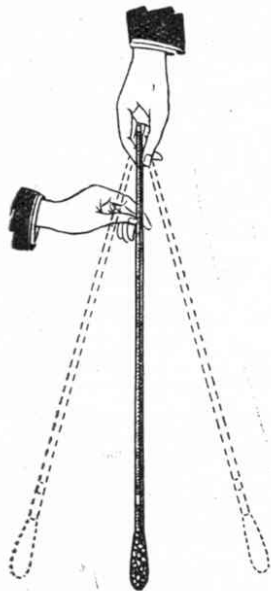
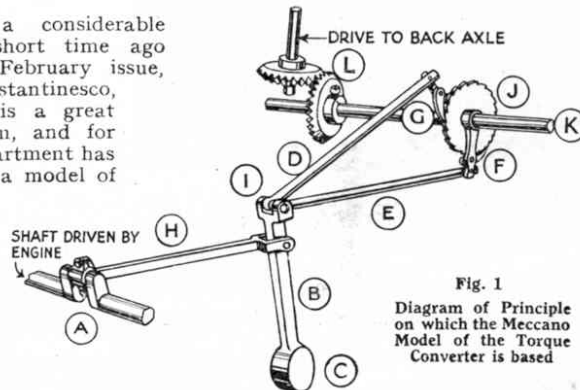

Fig. 2
Fig. 1
A diagram of the working of the model is given in Fig. 1. The crank (A) driven by the engine, is connected to a lever (B), to the lower end of which is fixed a heavy weight (C) forming a pendulum. The other end of the lever (B) is connected to two rods (D and E) carrying pawls (F and G) which bear on a ratchet wheel (J). In this manner the torque, or twisting effect, is delivered to the rod (K) and through it by bevel gears and shaft (L) to the differential on the back axle (not shown in the diagram). No matter whether the rods (D and E) be pushed towards the ratchet or pulled away from it, the turning motion imparted by the pawls to the rod (K) is always constant in direction.
Our readers will obtain a clearer idea of the working principle of the Torque Converter by taking a walking stick with a heavy knob and suspending it with the knob downwards, as shown in Fig. 2. With the left hand take hold of the stick a few inches below the tip and swing it gently to and fro. Notice that it swings evenly and pivots in the thumb and finger of the right hand.
This is the principle on which the Constantesco Torque Converter is based, and the Meccano model works on the same principle. In it the hand moving the stick is replaced by the connecting rod (H Fig. 1) coupled to a crank (A). The place of the hand forming the pivot is taken by the bolt (I) which carries the rods (D and E) in our diagram. Impulses from the crank are transferred to the pawls (F and G), which in turn pass on the impulses—now converted into a turning movement—to the driving shaft.
The conditions of our analogy in Fig. 2 are simulated when the weight (C Fig. 1) swings without imparting any movement